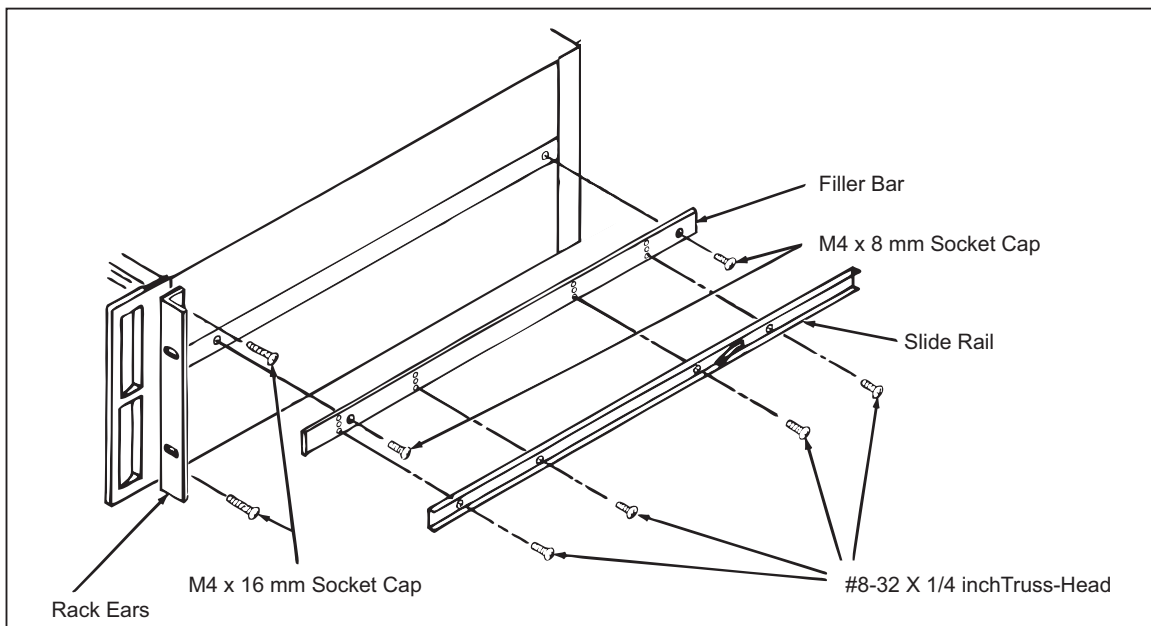
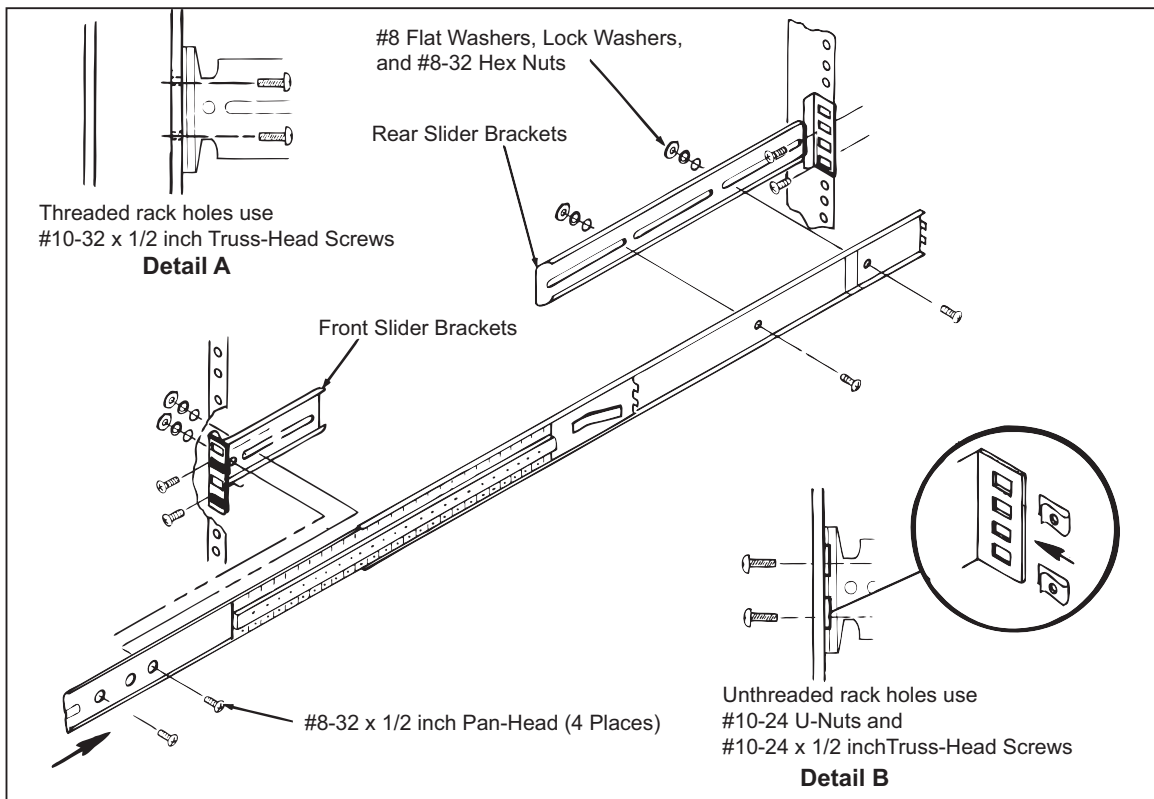
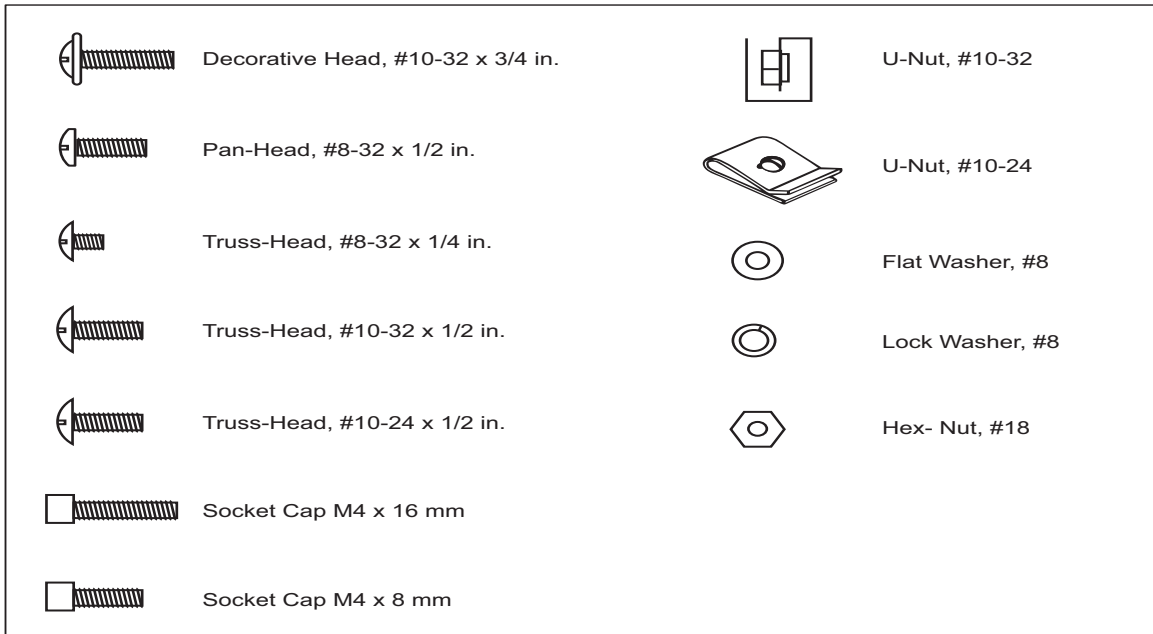

Figure 1. Attach the Hardware to the Product
Figure 2. Install the Rack Slides
Figure 3. Screw Identification
Use this procedure to install the kit. For steps 1 through 3, see Figure 1. Figure 3 shows the fasteners and screws necessary.
4. Install the front slide brackets (shorter pair) to the equipment rack mounting rails (Figure 2). (Refer to Figure 3 and 4 for typical mounting holes spacing.) If your rack has threaded mounting rails, use two #10-32 x 1/2 inch truss-head screws as shown in Figure 2, Detail A. If your rack has unthreaded mounting holes, use two #10-24 x 1/2 inch truss-head screws and two #10-24 U-nuts as shown in Figure 2, Detail B.
6. Attach the slides to the front brackets using two #8-32 x 1/2 inch pan-head screws, two #8 flat washers, two #8 lock washers, and two #8 hex nuts (see Figure 2). Align the slides to the rear brackets the same way as the front, except fully extend the slides to access the screw heads.